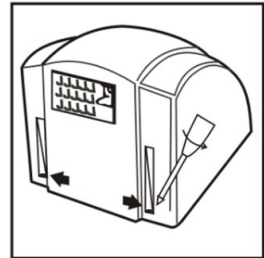

Figure 2
- As shown in (Figure 2), remove two screws from the recesses in the bottom face and remove the cover.